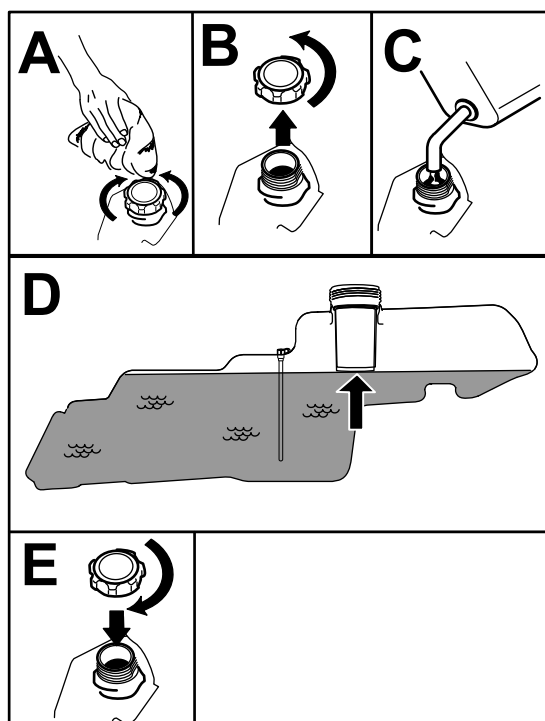

Figure 8
- Fill the fuel tank to the bottom of the filler neck (Figure 8). Do not fill the fuel tank completely full